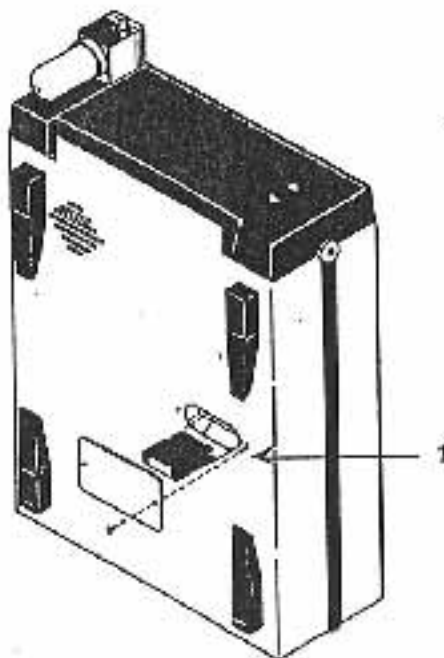

Figure 4-3. Software cartridge replacement
3. Gently place the monitor with the back panel as shown in **Figure 4-3**.
5. Grasp the installed software cartridge (Figure 4-3, item 1) and pull it out from the chassis. Note the key orientation.